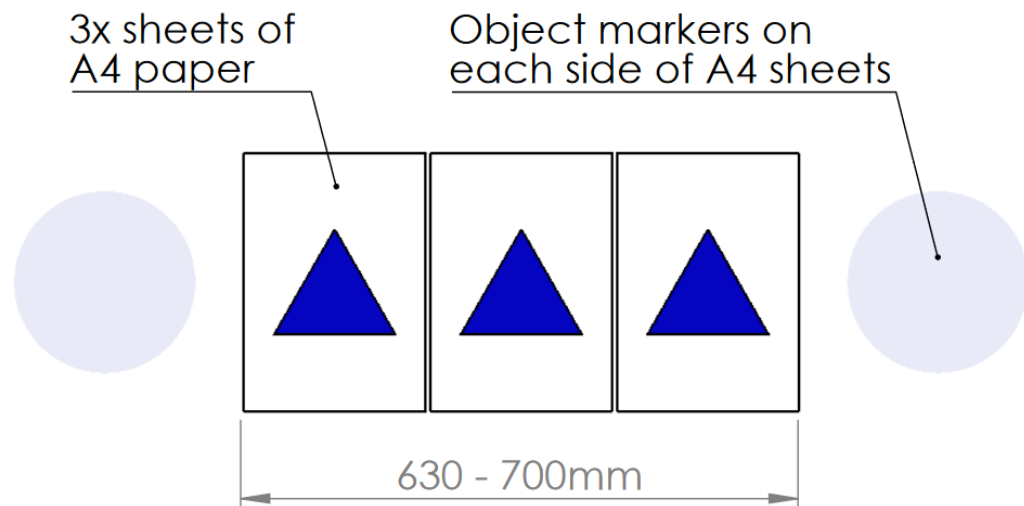

Figure 3: Plan view of markers used for Task E.
- The area to be repaired is denoted by **THREE (3)** adjacent sheets of paper, each with a blue triangle printed on it.
- The sheets will be located in between two objects used as markers. A plan view of the setup is shown in Figure 3: